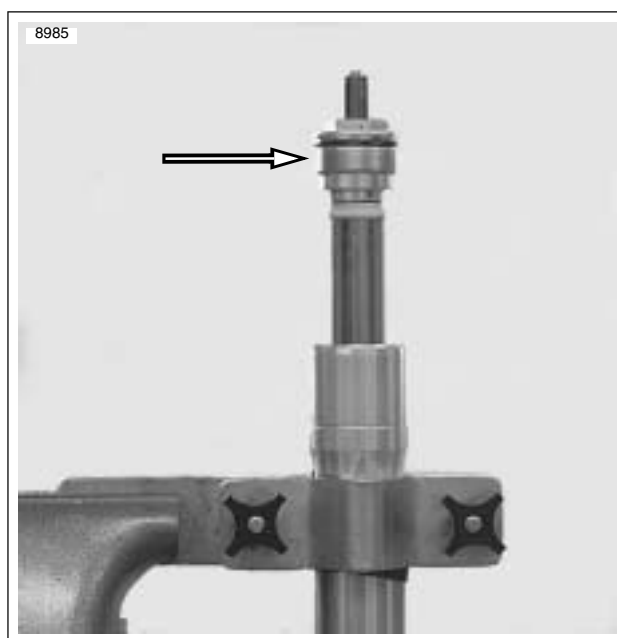

Figure 2-66. Removing Fork Cap From Outer Tube
5. See Figure 2-66. Remove fork cap from outer tube.